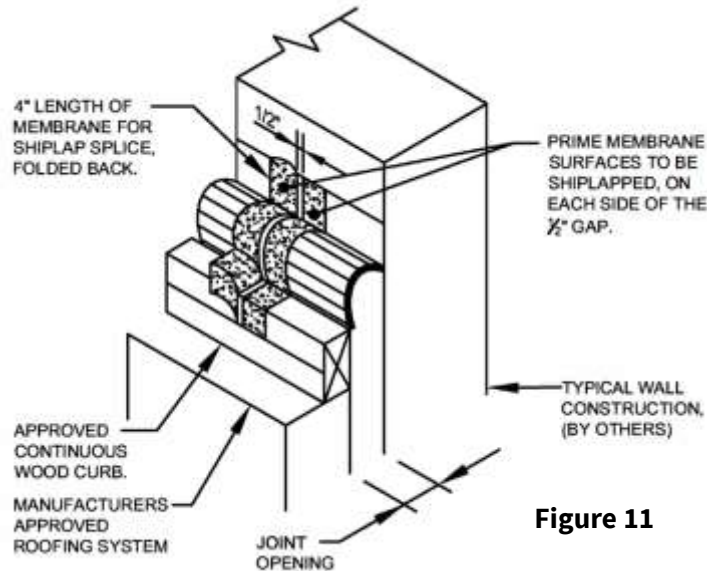

Figure 11
12. After all section of style EWCFW are installed, splices can be completed. Using provided brush and primer, prime both sides bellows to be shiplapped. Allow primer to dry to tack free. Typical at each splice location. **See Figure 11**